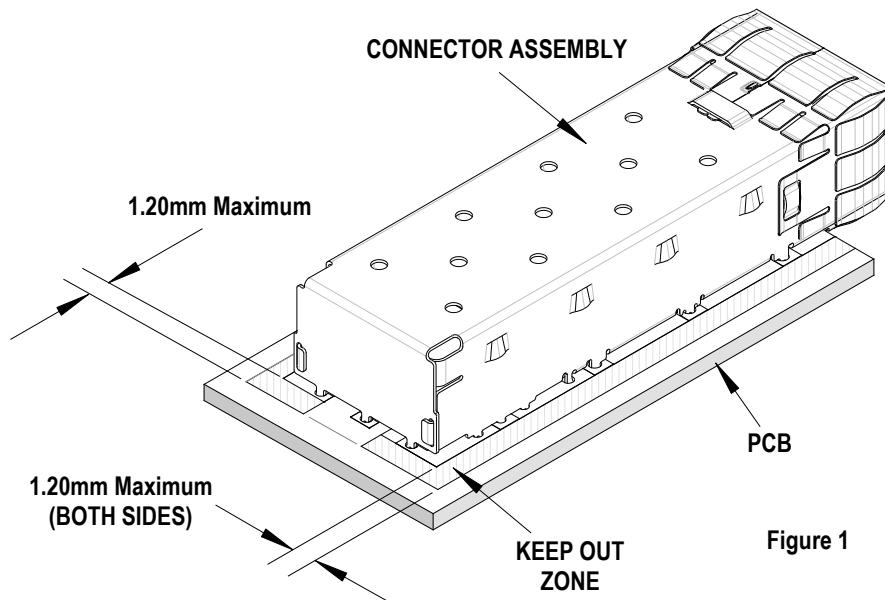

Figure 1
- This tool is used in place of tool 62202-9740 when the “Keep Out Zone” is reduced to 1.20mm. See Figure 1.
2. These tools require a “Keep Out Zone” around the connector free of components. The rear of the connector should be .047” (1.20mm). The right and left sides should be .047” (1.20mm). See Figure 1.